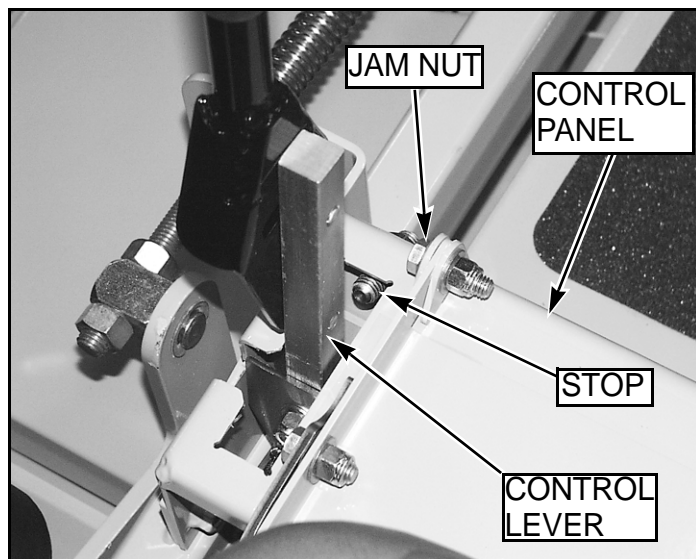

FIG. 50
8. After adjusting for neutral it may be necessary to re-adjust the control lever stop "FIG. 50".
The control lever stops "FIG. 50" are designed to do two things: First, and most important, they must keep the pumps from bottoming out internally. Secondly, the stops may be adjusted to help drive straight when the control levers are pushed forward against the stops.